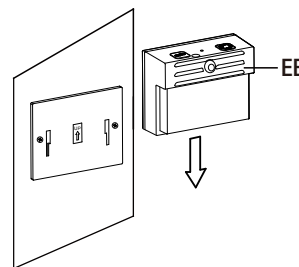

Figure 2
1. Mount the light on the mounting plate (DD) by aligning the slots on the back of the light to the slots on the front of the mounting plate. (Figure 2)